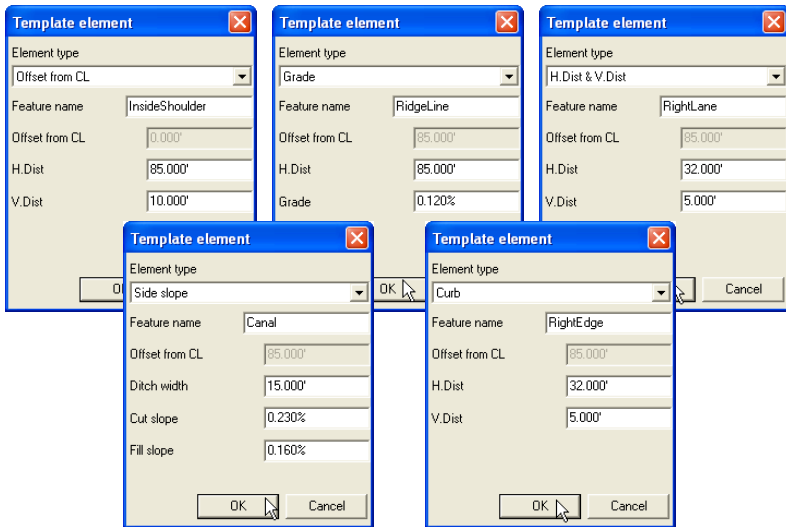

Figure 6-29. Template Element Dialog Boxes
3. On the **Template element** dialog box, select the type of element and enter the required information. The fields differ depending on the element selected (Figure 6-29 on page 6-27).